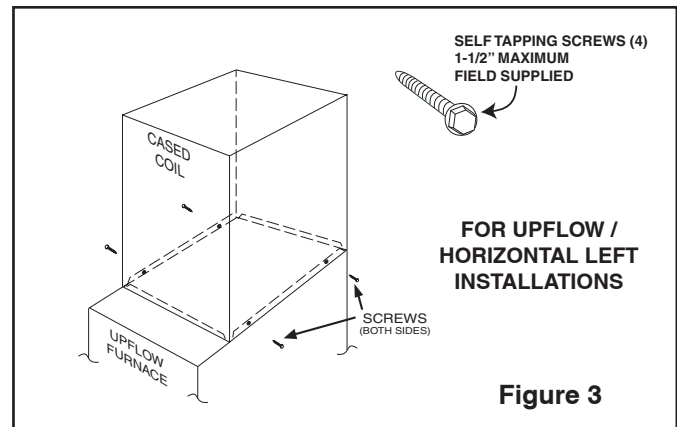

Figure 3
- Set the coil case on top of the furnace. Connect the ductwork to the coil case using field supplied screws. See Figure 3.